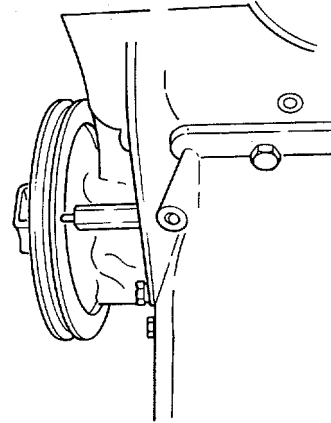

Figure 5-42. Timing Pin.
- (1) Before timing, remove the camshaft (see n above), injector pump (see paragraph 5-22), and idler gears (see d above). Ensure that the camshaft is free to turn by hand. If the cylinder head assembly is still in position, remove the atomizers and rocker shaft to facilitate the timing operations.
- (2) Turn the engine until the keyway in the front of the crankshaft is up (see Figure 5-42). This will bring no. 1 and no. 4 pistons to TDC.
- (5) Align the idler gear double dots to the single dot on the crankshaft gear. Align the single line (or dot) on the camshaft gear and the single dot on the idler gear with the double dots on the injector pump gear. These timing marks when correctly positioned will appear as shown in Figure 5-42.
A timing pin is fitted at the bottom of the timing case cover on the left side. When it is unscrewed, it locates in a hole machined in the rear face of the crankshaft pulley (see Figure 5-42), when no. 1 and no. 4 pistons are at TDC. With some applications, two holes are provided in the rear face of the crankshaft pulley, i.e., one for the TDC position and the other for the static injector pump timing position. Always return this pin to its normal location immediately after TDC has been determined and before any attempt is made to turn or start the engine.